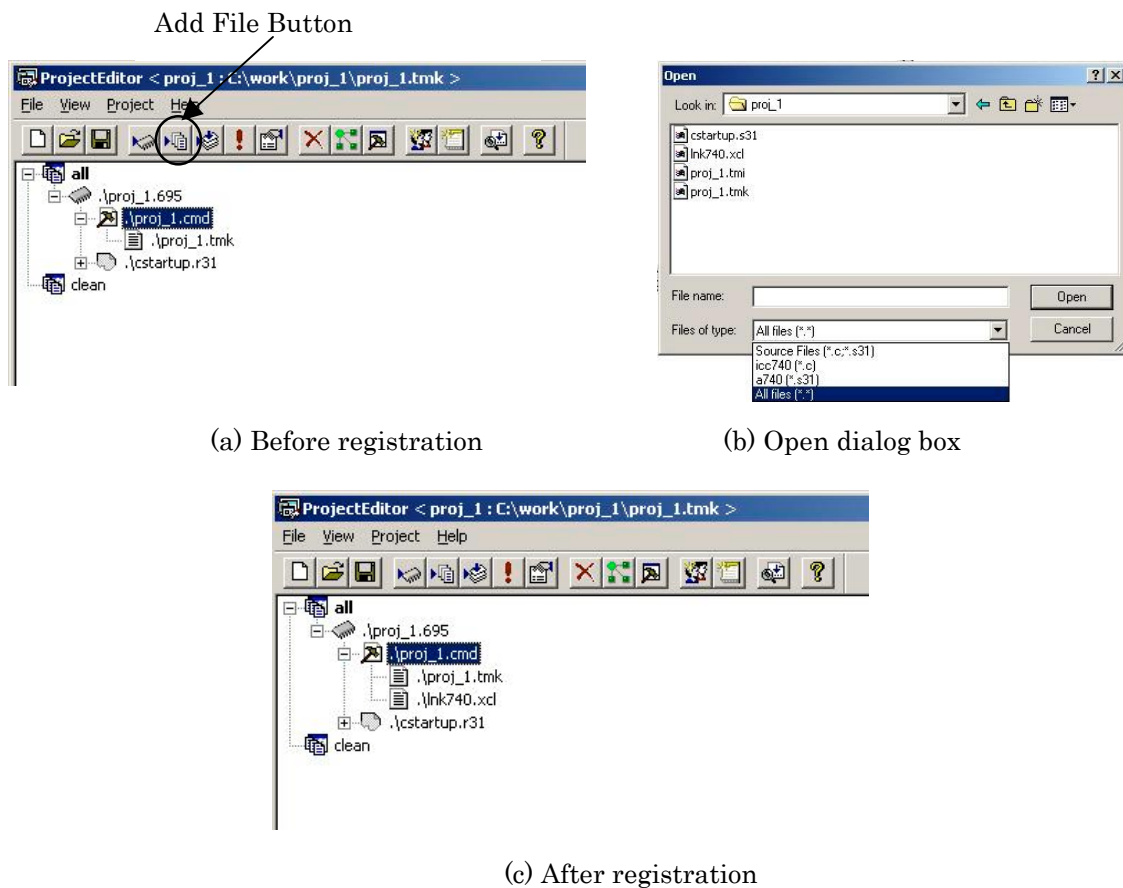

Figure 8 Complementing a new project
3. Click [.\proj_1.cmd] and then the Add File button (Figure 8 (a)).
4. In the ensuing Open dialog box, select “All Files” for File Types and add the lnk740.xcl file present in the working directory (Figure 8 (b)).
5. When you add the lnk740.xcl file, the screen changes to the one shown in Figure 8 (c), with lnk740.xcl added to the project.